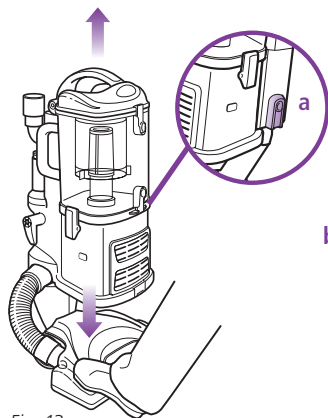

Fig. 13
- 1 Separate the portable *Lift-Away*® canister from the floor nozzle by pressing the red release button (a) on the side of the canister. Gently hold the nozzle to the floor with your foot and pull the canister up. (Fig. 13)